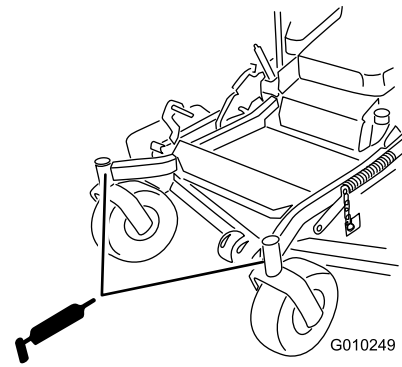

Figure 42
9. Remove the grease zerk in the hole. Install the hex plug and dust cap (Figure 42).
10. Grease the caster wheel bearings (Figure 42).